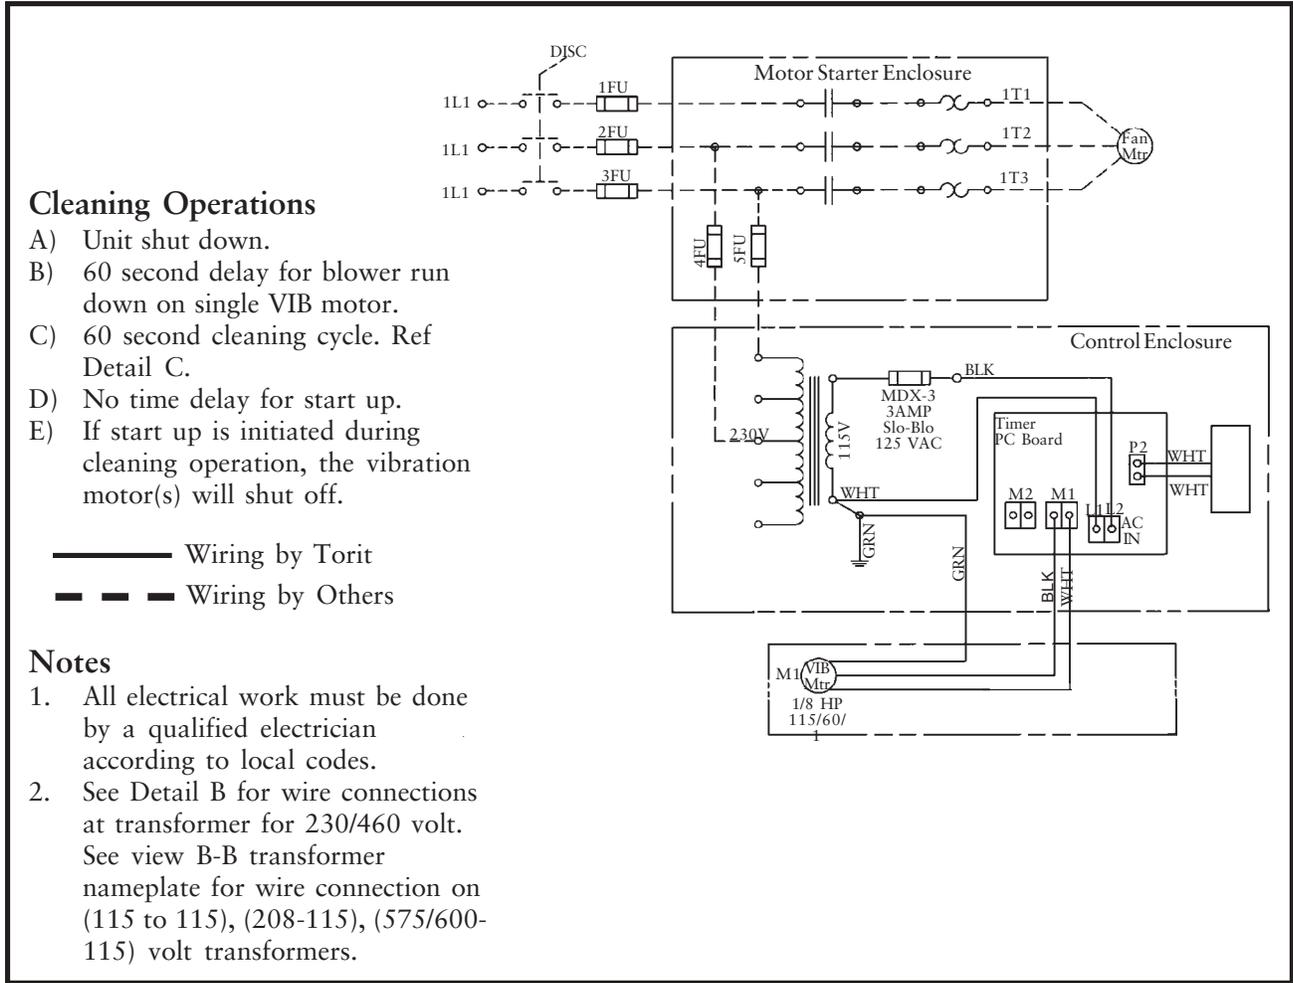

Figure 21
2. Check the blower fan rotation. The collector fan may be rotating backwards.	2. To check the fan rotation, look down at the top of the motor fan; it must spin clockwise (Also reference the rotation label on the fan housing or the motor mounting plate). To change rotation, reverse any two wires on the output side of the starter (3 phase motors only—reference Figure 21 SGL Wiring Diagram).